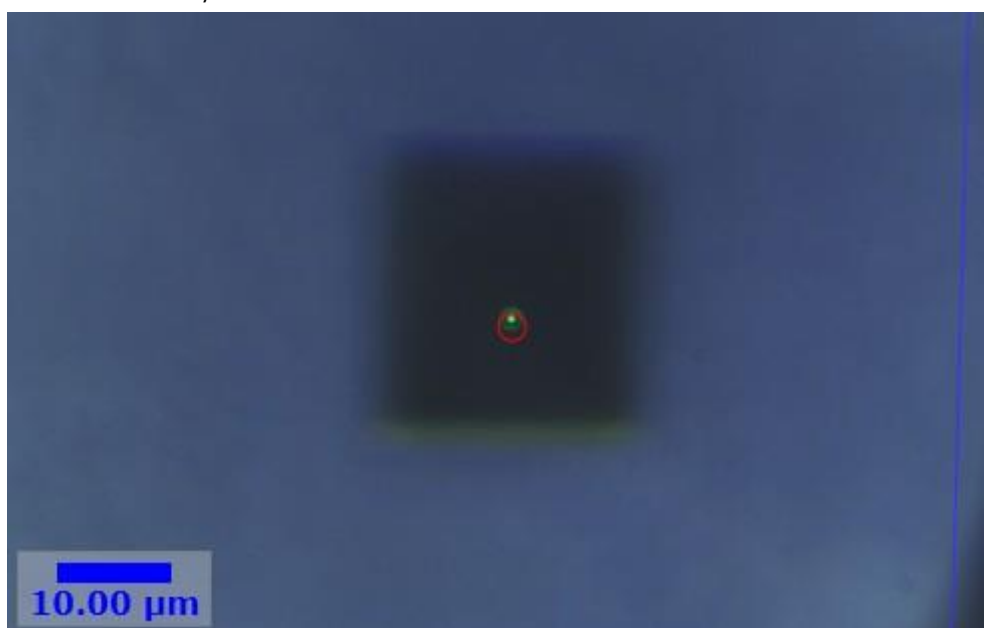

Fig. 2: SNOM cantilever with transmitted light (bottom view)
15. If there is no light spot visible at the aperture like in Fig. 2, slightly change the cantilever position in the x-y direction until you see it.